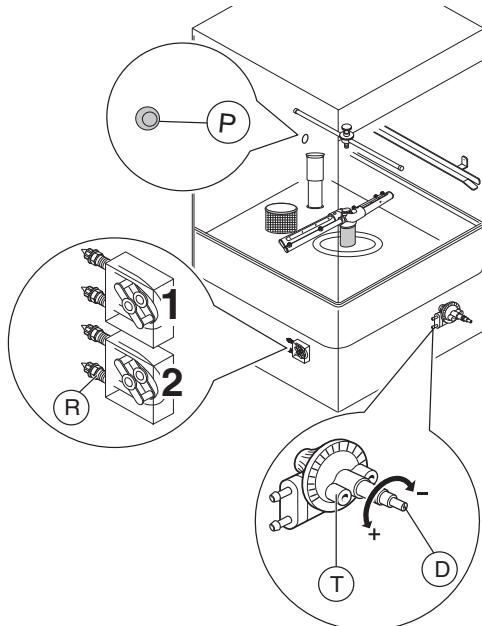

Figure 12 Dispenser prearrangement
I3.1 Dishwasher with incorporated rinse aid dispenser (Figure 12)
To vary the dose, adjust the screw "D" as required (Figure 12).
13.2 Dishwasher with incorporated detergent dispenser (Figure 12).
- Adjust the screw "R" to set the required dose (Figure 12). The adjustment of the amount of detergent delivered by the dispenser must carefully comply with that indicated by the detergent producer. This quantity is usually expressed in g./l and varies depending on the water hardness.
13.3 Installation of external automatic detergent dispenser (Figure 12)